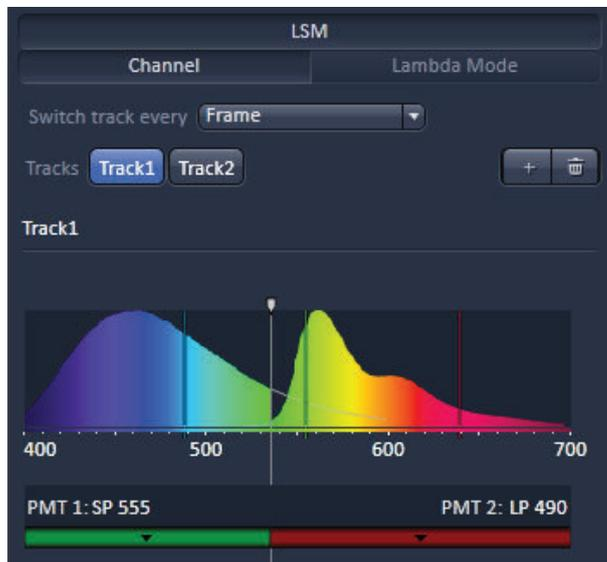
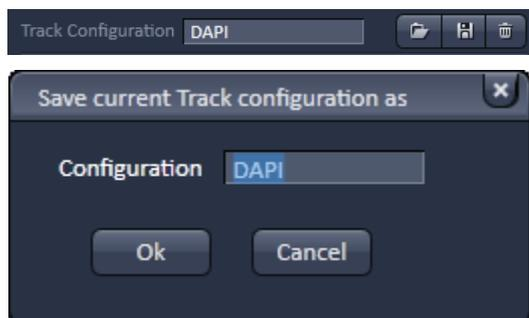

Fig. 17 Detection bands & Laser lines display
Fig. 18 Track Configurations window
- The Detection Bands & Laser Lines are also displayed in a spectral panel (Fig. 17) to visualize the activated laser lines for excitation (vertical lines) and activated detection channels (colored horizontal bars).
- For storing a new track configuration open the **Channels** tool in the **Acquisition Parameter** tool group, click and enter a desired name in the box (Fig. 18). Press **OK** to confirm.
The following functions are available in the **Light Path** tool of the **Setup Manager** tool group (, Fig. 17 and Fig. 18).